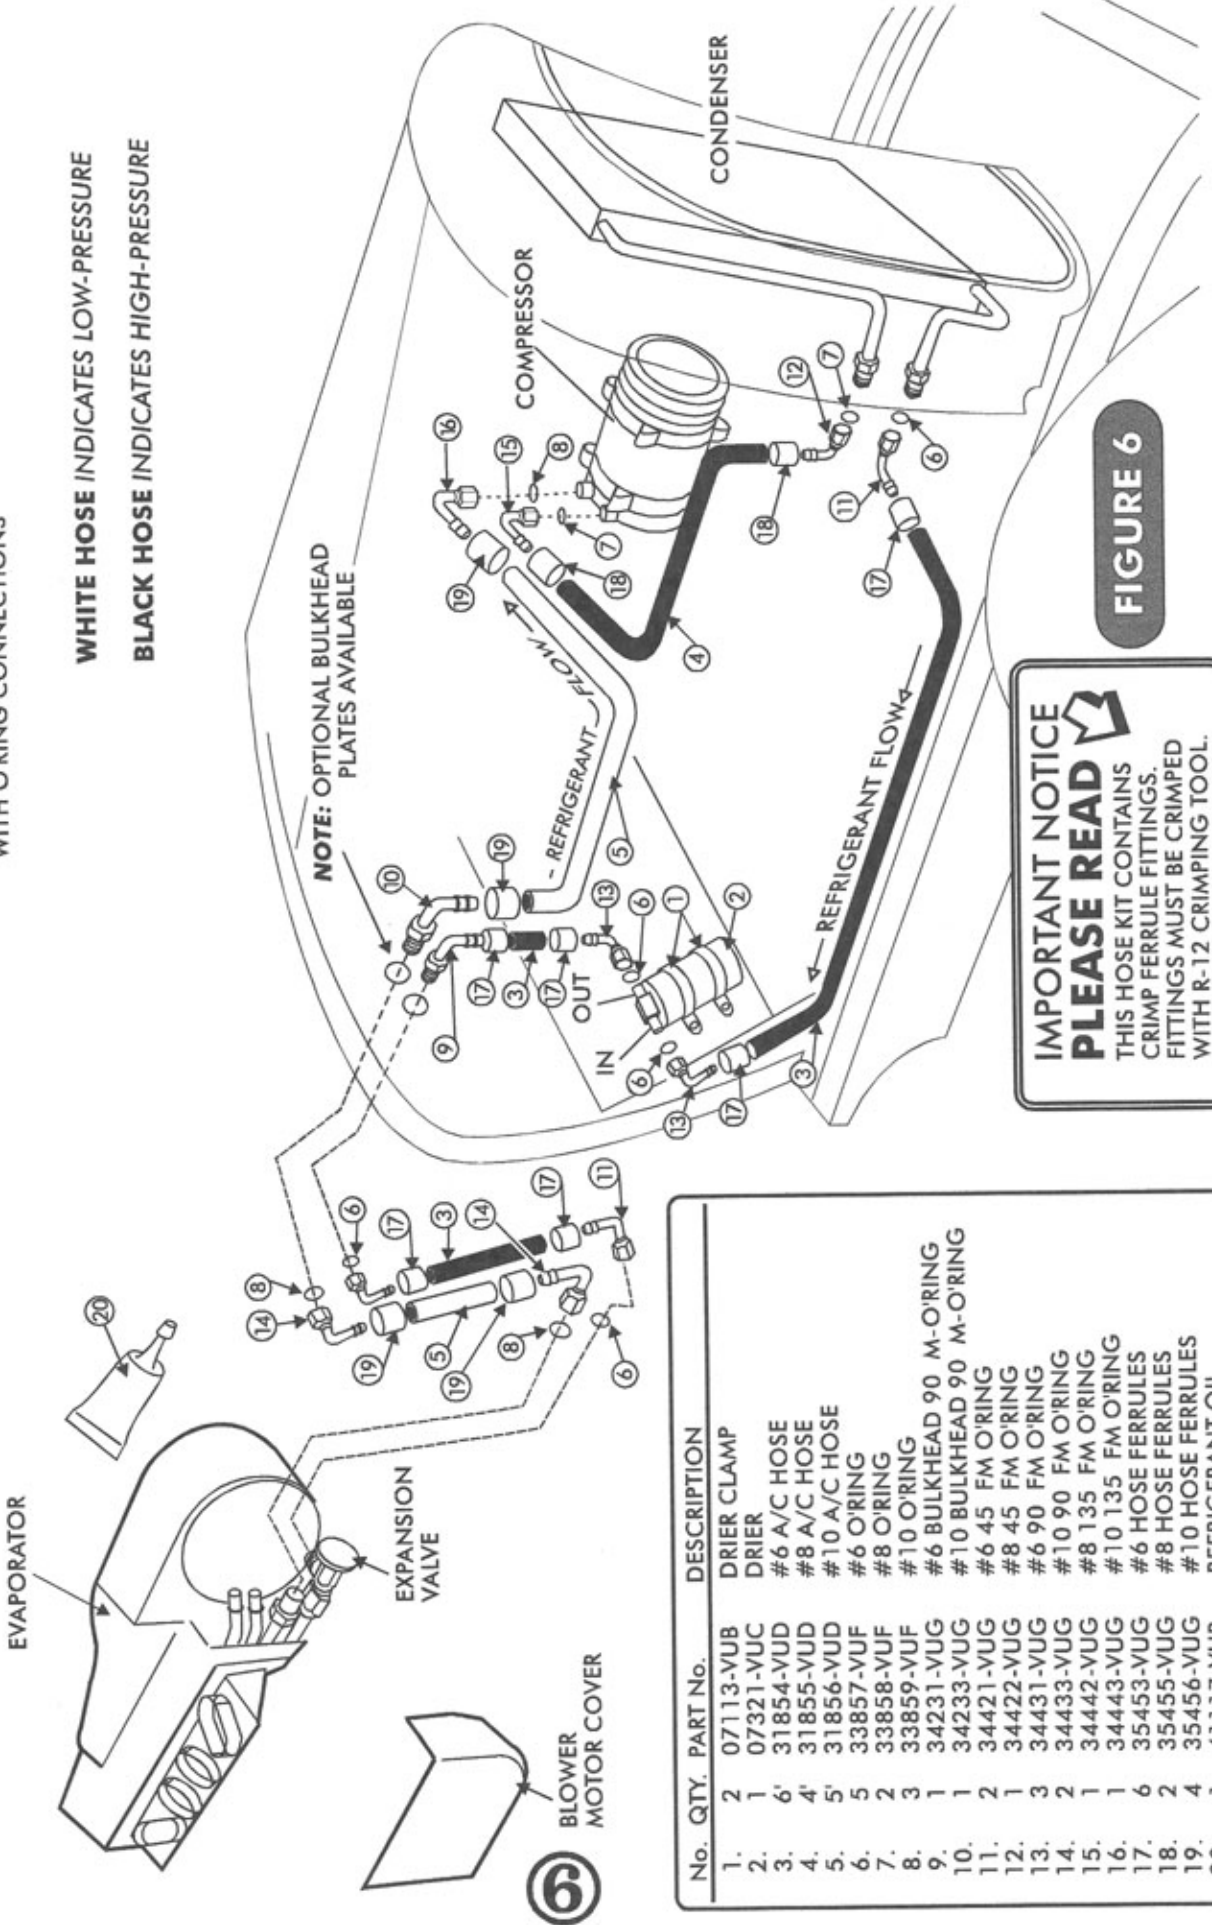

FIGURE 6
- B. ATTACH REAR BRACKET TO THE EVAPORATOR USING (2) 1/4"-20 X 1/2" BOLTS.
- C. FIT REFRIGERATION FITTINGS WITH HOSES FOR PROPER CLEARANCE INSIDE THE CAR. (REFER TO HOSE ROUTING - FIGURE 6, PG.6).
6. HOLD THE UNIT UP AS HIGH AS POSSIBLE, WITH BLOWER HOUSING AGAINST PASSENGER SIDE KICK PANEL. LOCATE THE BRACKET ON THE TOP RIGHT OF THE BLOWER HOUSING, LEVEL THE EVAPORATOR AND MARK THE NEW HOLE LOCATION USING THE HOLE IN THE BRACKET AS A TEMPLATE. CHECK TO SEE IF THE LOCATION YOU MARKED LOOKS CORRECT AND WILL CLEAR OBSTRUCTIONS ON BOTH SIDES OF THE FIREWALL. IF LOCATION IS CORRECT - DRILL A 5/16" HOLE IN FIREWALL AND ATTACH THE EVAPORATOR TO THE FIREWALL BY THE BLOWER MOTOR BRACKET WITH A 1/4" x 20 x 1" BOLT AND NUT. USING THE REAR CENTER EVAPORATOR BRACKET AS A GUIDE, MARK AND DRILL A 5/16" HOLE. ATTACH THIS BRACKET TO THE FIREWALL WITH A 1/4" x 20 x 1" BOLT. THIS WILL LOCATE THE EVAPORATOR HORIZONTALLY. DRILL FRONT EVAPORATOR BRACKET HOLES AND SECURE THEM TO THE BACKSIDE OF THE DASH WITH TWO (2) #8 x 1/2" SCREWS (SUPPLIED).
2. AFTER ALL THE COMPONENTS ARE MOUNTED, REMOVE THE HOSE COVER FROM THE EVAPORATOR UNIT. PUSH THE #6 HOSE ONTO FITTING AND SCREW IT LOOSELY TO THE EXPANSION VALVE. PUSH THE #10 HOSE ONTO FITTING (SEE FIGURE 6, PG. 6) AND SCREW IT LOOSELY TO THE LARGE THREADED FITTINGS COMING OUT OF THE EVAPORATOR.